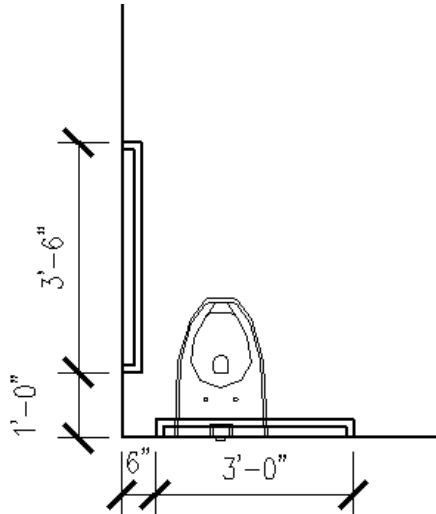
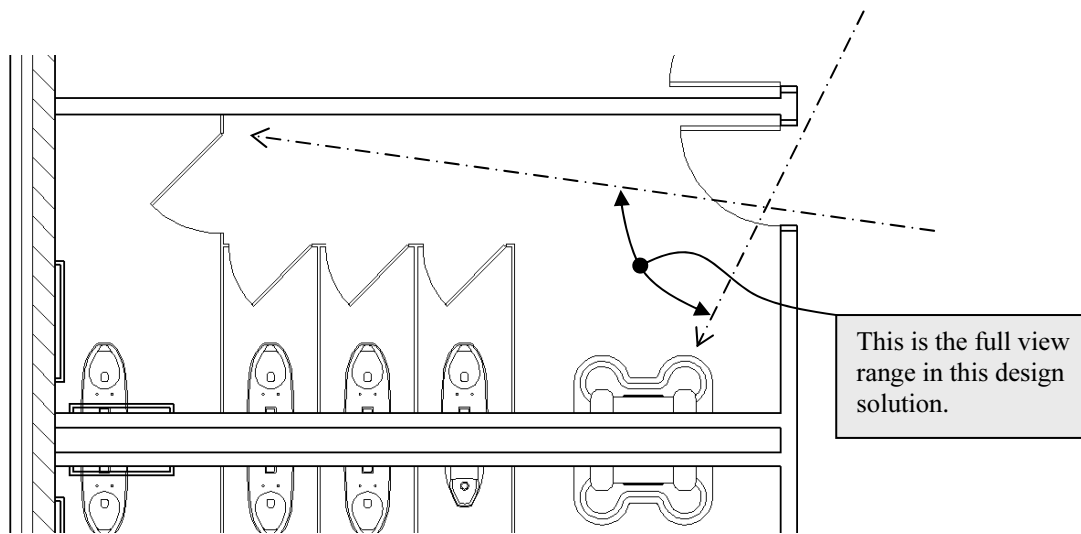

Figure 4-1.7a Grab bar dimensions;
Figure 4-1.9 Dashed lines reveal unacceptable sightlines into the toilet room
- b. See **Figure 4-1.7a** for the grab bar dimensions.
- b. See **Figure 4-1.7a** for the grab bar dimensions; see Figure 4-1.9 for grab bar locations.
- c. The northern room has (3) toilets and a Lavatory System.
- d. The southern room has (2) toilets, a urinal and a Lavatory System (obviously this is the Men's toilet room).
An unacceptable design solution is shown in **Figure 4-1.9**. The toilet room is much larger and can even have another toilet fixture without the door modification for sight-lines; also, the door is right off the circulation path which can be problematic. Notice two lines are shown to visualize the full visual range. Granted, some of this view is obstructed by a person's body as they pass through the door opening; it is still an undesirable design solution.